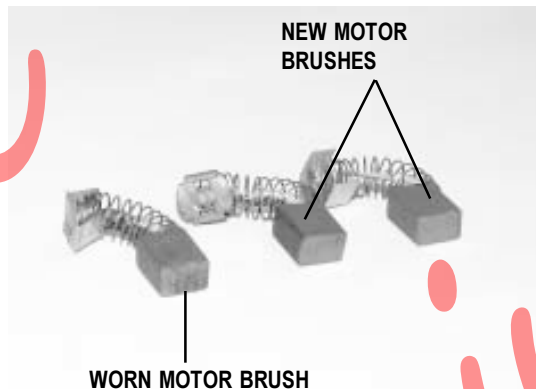

Figure 25. Motor Brushes
4. Inspect the brushes for wear. See figure 25.